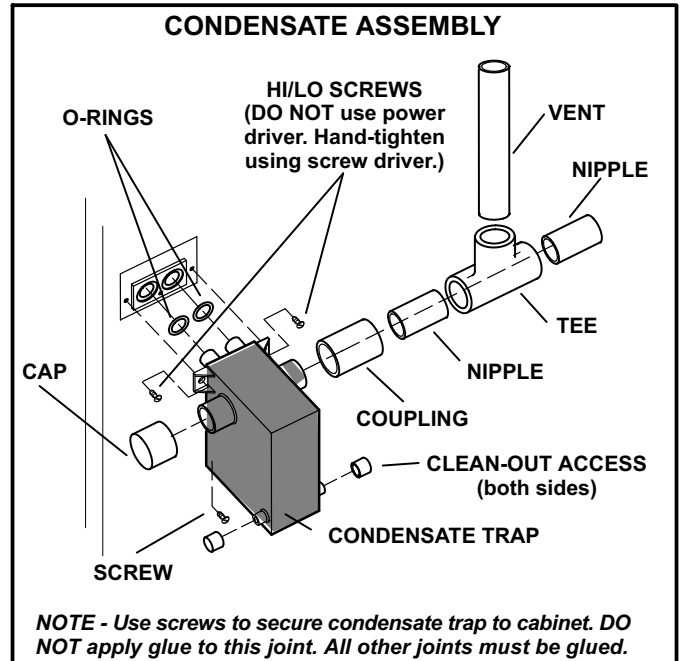

FIGURE 49
- 2 - Install condensate trap onto the condensate collar. Use provided HI/LO screws to secure two upper flanges of the trap to the collar. Use provided sheet metal screw to secure bottom trap flange to side of unit. **DO NOT apply glue to secure condensate trap to cabinet.** All other joints must be glued. See figure 49.